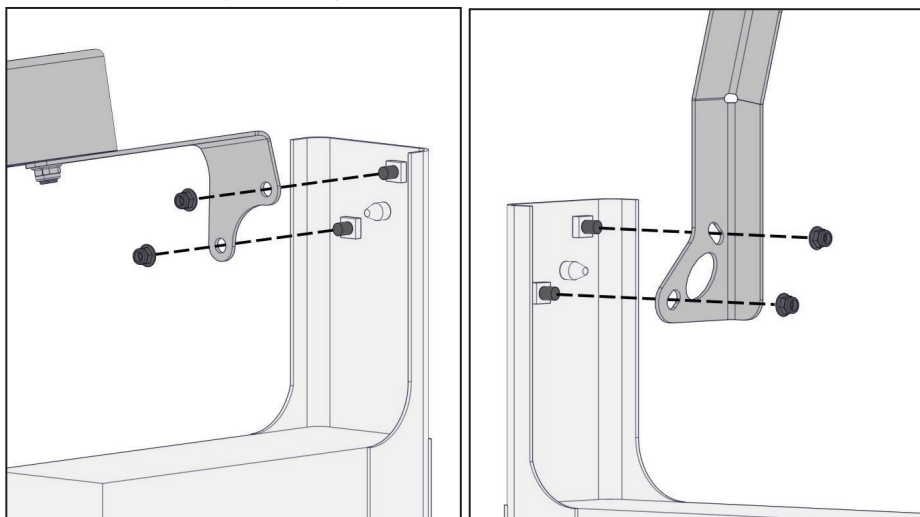

Figure 19 — Install compressor air filter bracket
- Using the supplied M8 lock nuts, secure the air filter bracket to the driver side bumper mounting bolts (Figure 19).